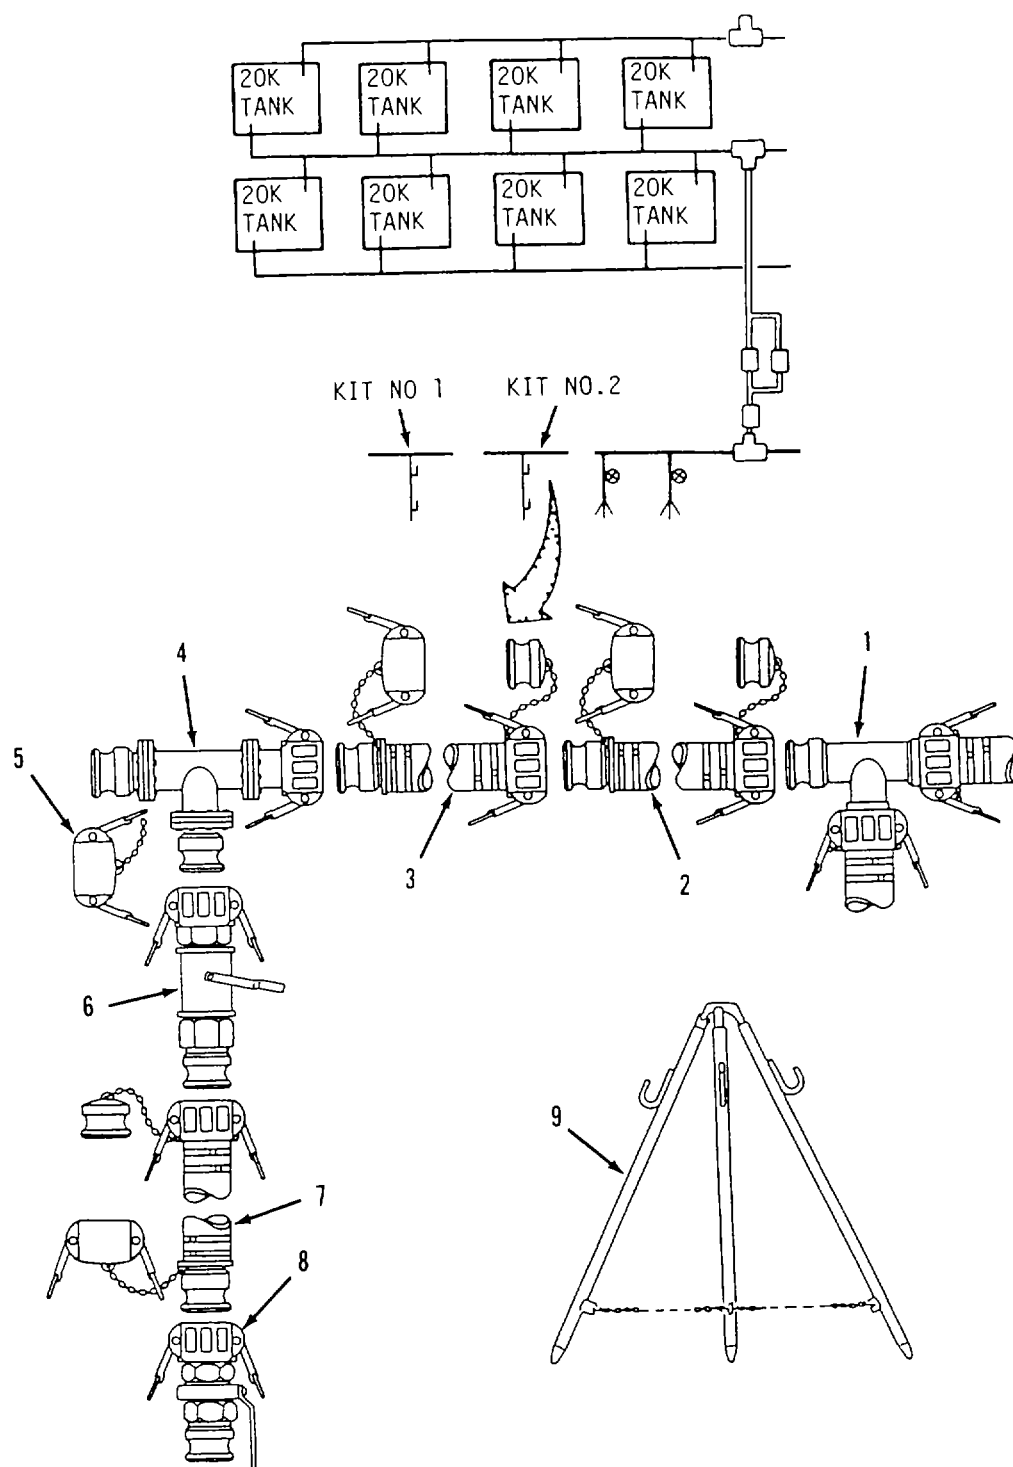

Figure 2-30. 4-Inch Hose Connection Kit Disassembly.
- (17) Disconnect 4 inch x 20 foot discharge hose (1) from tee (8).
- (18) Repeat steps 10 through 16 for hose connection kit no 1.
- (19) Drain and allow components to dry.
- (20) Install caps and plugs on component couplings (para 2-10c).
- (21) Roll all discharge hoses and secure with tape.
- f. Disassemble 4-Inch Hose Connection Kits. Refer to figure 2-30.